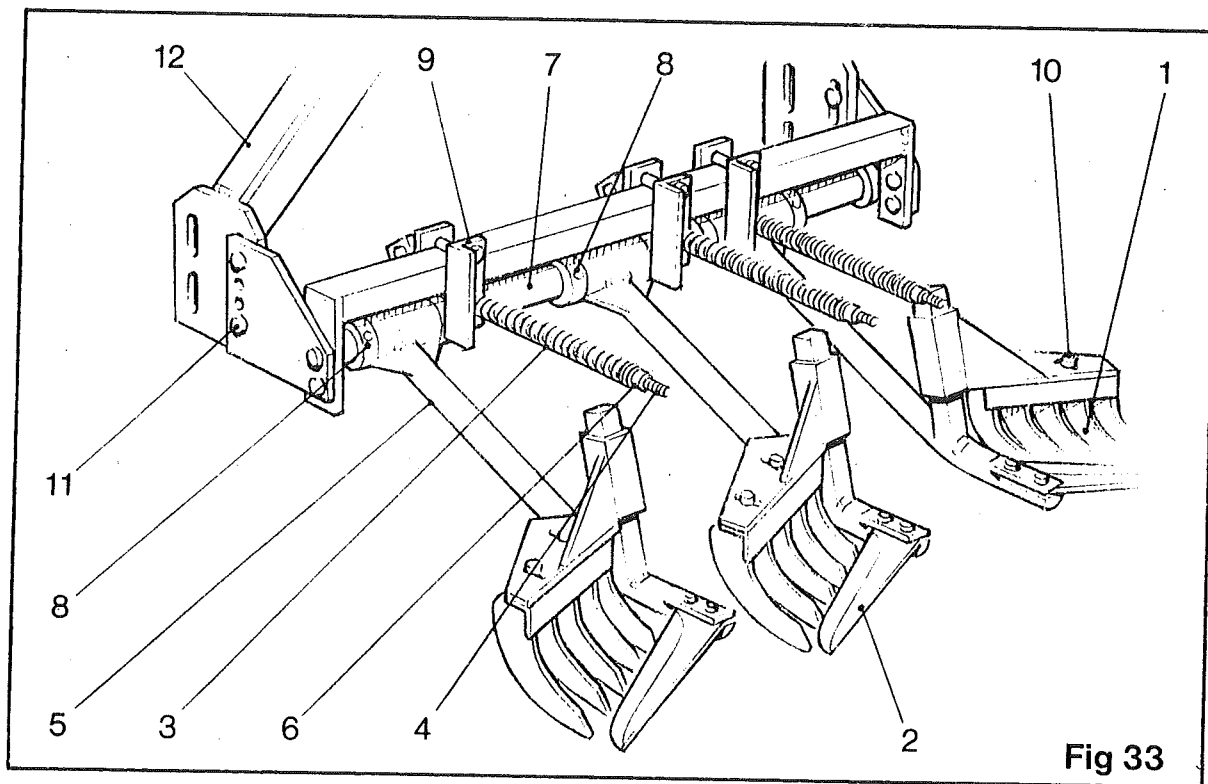

Fig 33
Before attempting to set up the scalpings drive the machine a short distance down the rows of beet to obtain the required pitch of the knives. When topping the beet the knife (item 2 fig 33) should be parallel with the ground. To adjust turn the tractor top links until the knife is in the required position.
The amount of beet crown removed by the knife is determined by adjusting the comb (item 1 fig 33) above the knife (item 2 fig 33). Increasing the distance between the two will remove more beet crown and decreasing the distance will remove less beet crown.
A very important part of the scalping mechanism is the tension of the springs (item 3 fig 33) fitted to the tension rods (item 4 fig 33) designed to give a downward pressure to the knife. Enough pressure should be given to return the scalper arm (item 5 fig 33) and knife to successfully top a low beet after topping a high beet. At the same time, too much pressure will force the knife to dig into the highest beet causing too much beet crown to be removed or the beet to be pushed over.
To adjust the spring, either tighten up or loosen the lock nuts (item 6 fig 33) until the right amount of pressure is acquired.
Each scalper arm (item 5 fig 33) is independently pivoted on the scalper support bar (item 7 fig 33) and by sliding the scalper arm along the scalper support bar, adjustments can be obtained to suit row widths of between 18 inches (48 cm) to 21 inches (53 cm). To adjust for row widths loosen the collars (item 8 fig 33), and the nuts and bolts in the spring clampplate (item 9 fig 33). Remove the two outside units to the required row setting ensuring that the knife (item 2 fig 33) is crowning the beet as close to the scalper arm (item 5 fig 33) as possible so that the scalper arm just misses the side of the widest beet.
The comb (item 1 fig 33) is adjustable, backwards and forwards. This setting is determined by the size of the beet. To adjust the combs (item 1 fig 33), slacken the two set-screws (item 10 fig 33) and slide the combs in the required direction to the correct position and retighten the set-screws. The comb should be forward for large beet and backwards for small beet.
To adjust the height loosen the nuts and bolts (item 11 fig 33) and move the mounting plates up or down, according to the height required. If more adjustment is required remove the nuts and bolts (item 11 fig 33) from the upper holes in the mounting plates and place them in the lower set of holes and re-assemble in the slots in the 'A' frame (item 12 fig 33) and tighten when the height is correctly set.